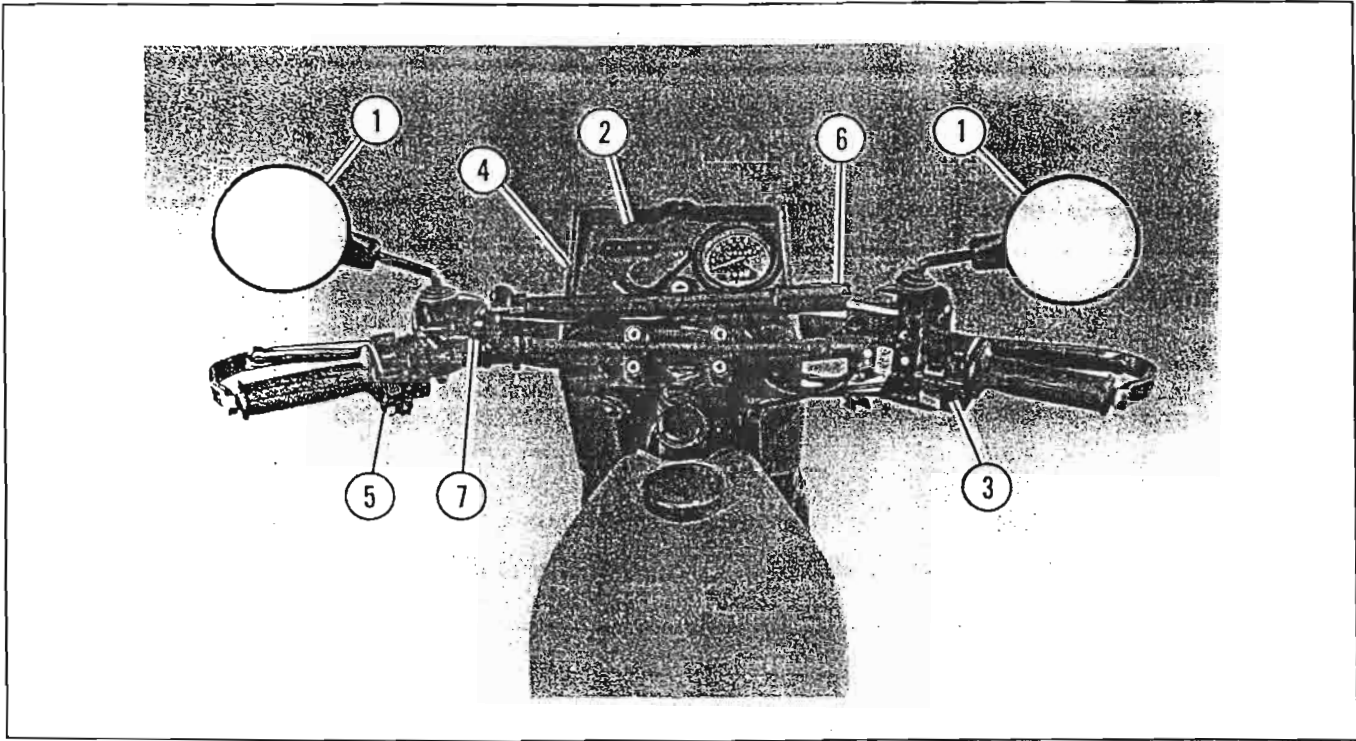

Figure 2-1. Operator's Controls and Instruments
## Legend for Figure 2-1.
8. *Trip Meter* – See Figure 2-1. Indicates accumulated trip mileage from 000.0 to 999.9 in kilometers. To reset trip meter to 000.0 at beginning of trip.